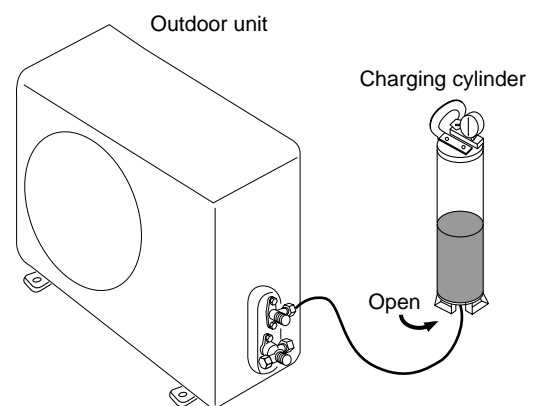

Fig. 4
- 13-5-2.** Use a hose to connect the narrow tube service valve to the liquid port of the charging cylinder. (Fig. 4)
- 13-5-4.** With a hex wrench, open the service valve little by little to let liquid refrigerant enter the circuit. (Fig. 4)